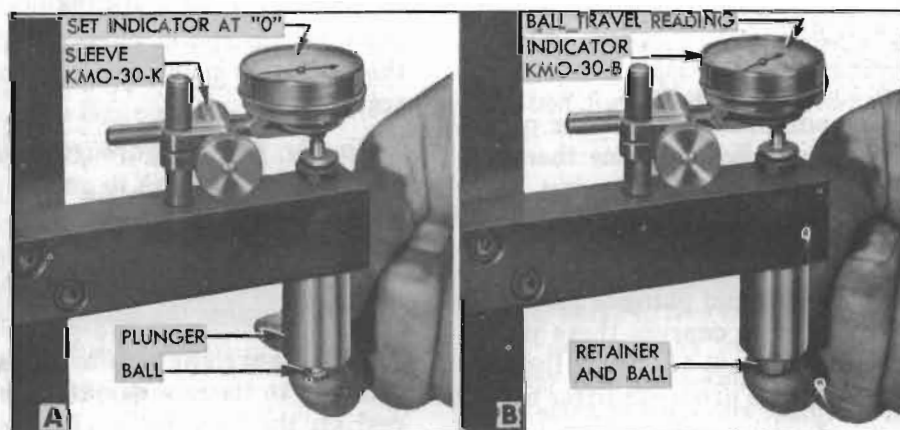

Figure 2-18—Checking Ball Travel
1. Prepare the ball travel checking attachment of Test Fixture J 5095 by using Sleeve KMO-30-K to mount Dial Indicator KMO-30-B so that stem of indicator bears squarely on upper end of the pin in attachment. See figure 2-18.
2. Place a new check ball in the seat in lifter plunger, then hold plunger and ball firmly against the attachment arm with plunger centered over the pin and stepped flange. See figure 2-18, view A.
5. Center the plunger over the pin and stepped flange of the check attachment and while pressing plunger and retainer firmly against attachment arm note the dial indicator reading. See figure 2-18, view B.